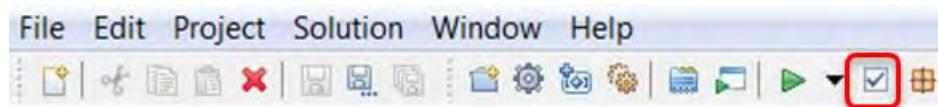

Figure 8-3: Run C/RTL CoSimulation Toolbar Button
2. When synthesis completes, use the **Run C/RTL CoSimulation** toolbar button (Figure 8-3) to launch the Co-simulation dialog box.